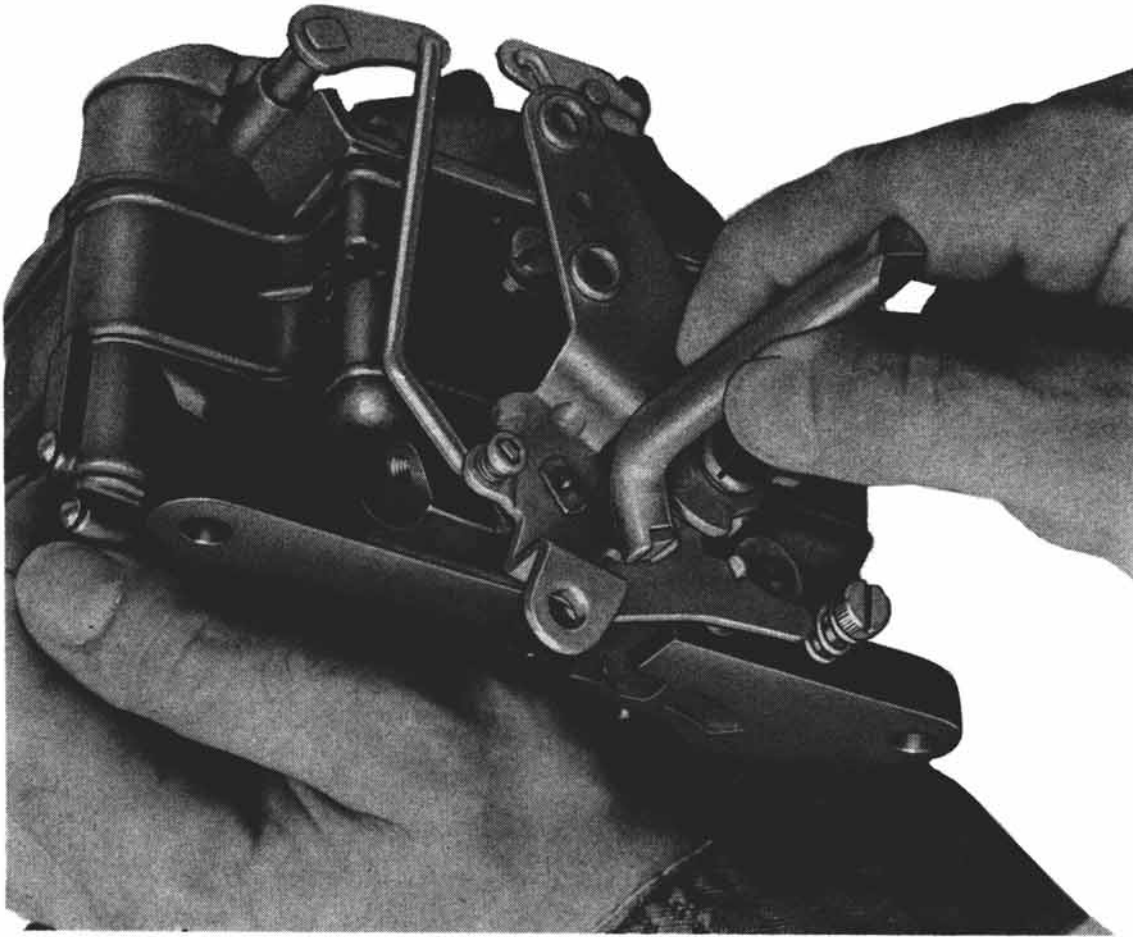

Fig. 35-C Setting Fast Idle Adjusting Tang
5. Holding choke valve tightly closed, bend fast idle adjusting tang until there is .015 inch gauge KMO-657 opening between throttle valve and bore of carburetor side opposite idle port (Fig. 35-C).